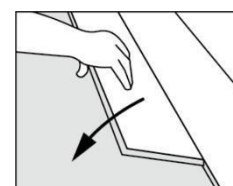

Figure 3
- Position the first plank of the second row by angling it up slightly on the long side, pushing forward, and interlocking the side tongue (**Figure 3**). Slide the plank to the left to align the edges of the end joint.
- Install the remaining planks and rows in the same manner (**Figures 3, 4 & 5**).